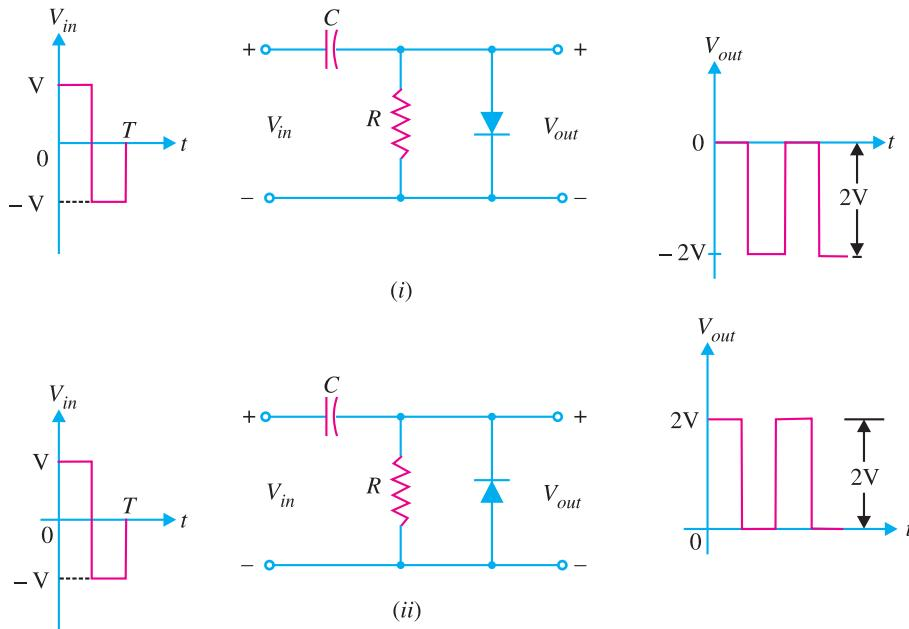

Fig. 18.63
**Example 18.20.** Draw the output voltage waveform for the input shown in Fig. 18.63.
**Solution.** Fig. 18.63 (i) shows the output voltage waveform for the input wave to the clamping circuit. Note that it is a negative clamper and pushes the input wave downwards so that positive peaks fall on the zero level. Fig. 18.63 (ii) shows the output voltage waveform for the input wave to a positive clamper. The clamper pushes the input wave upwards so that the negative peaks fall on the zero level.